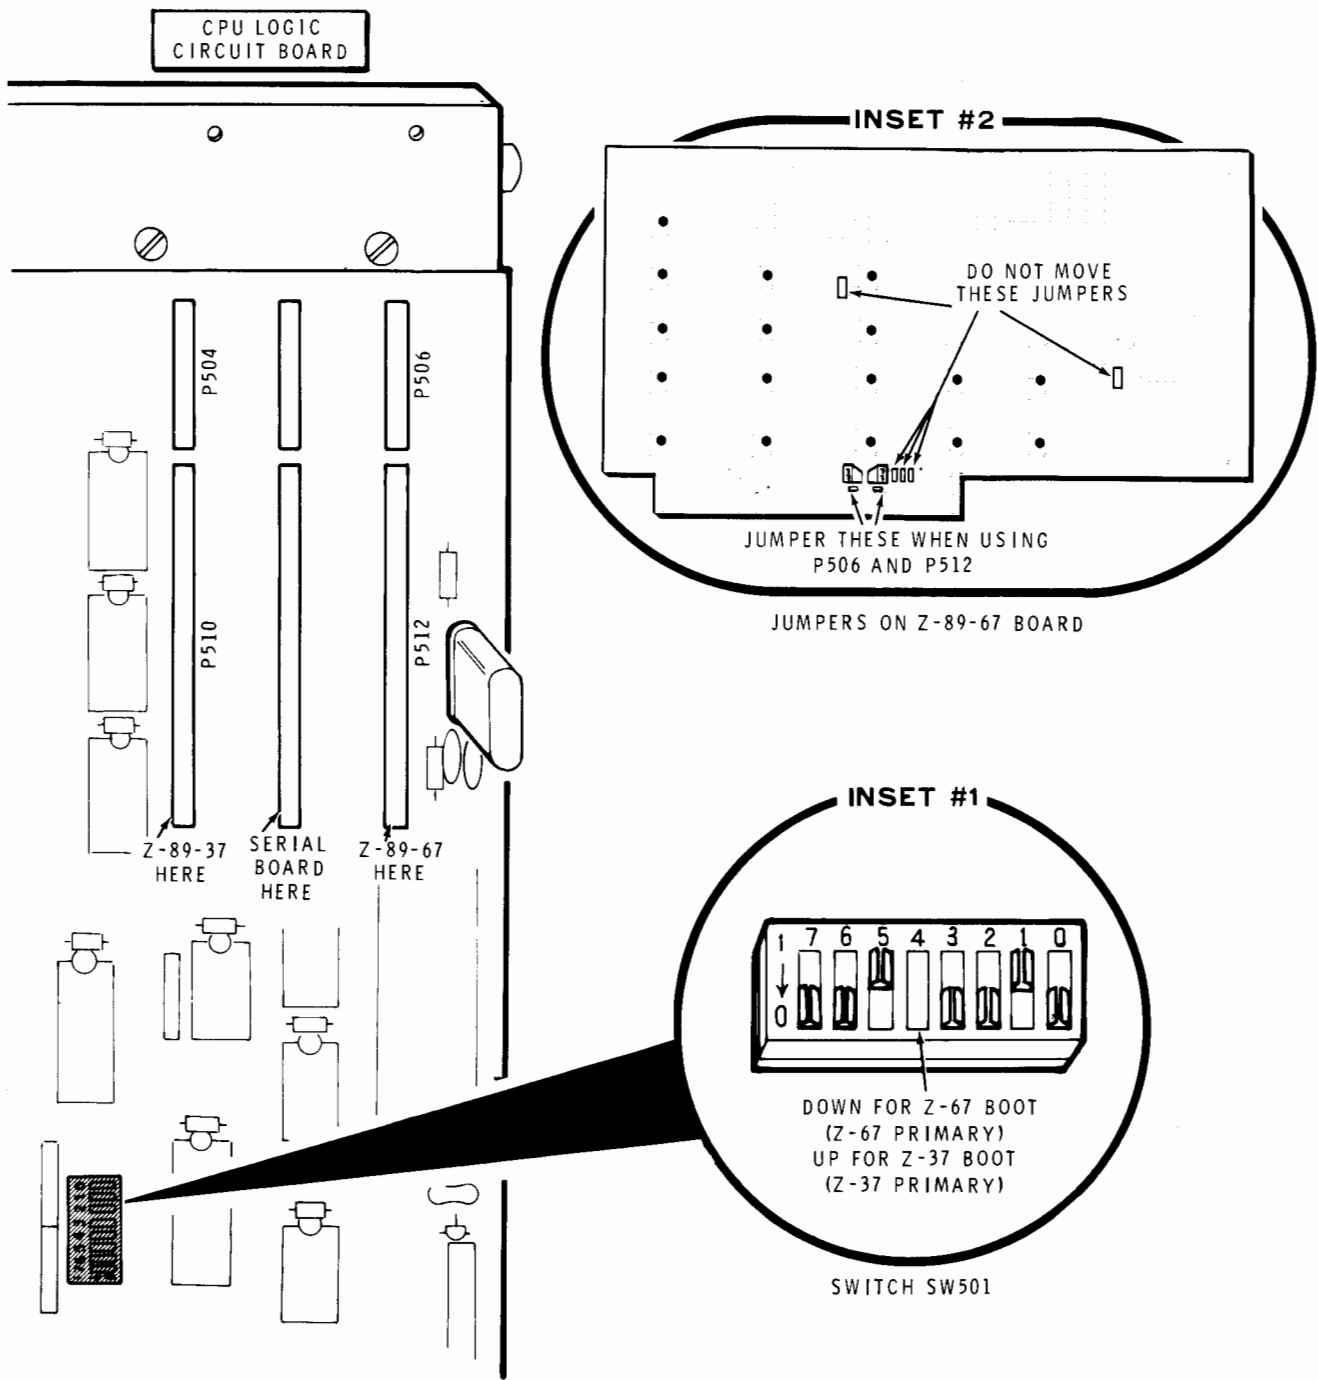

Figure 3-3
1. A **Z-89-37 Double-Density Controller**, you must install your Interface Board as shown in Figure 3-3 on Page 3-6. Switch SW501 on the CPU Board must be set as shown in inset drawing #1. The jumpers on the Interface Board must be set as shown in inset drawing #2.